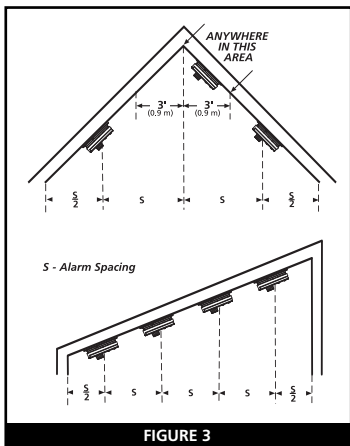

FIGURE 3
• The most favorable mounting location for a heat alarm is on the ceiling in the center of the room. At this location the alarm is closest to all areas of the room (see figure 3).
• If the alarm cannot be located in the center of the room, an off-center location can be used on the ceiling. When off center mounting an alarm on the ceiling, locate it at a minimum of 4" (10 cm) from the side wall (see figure 3).
of alarms shall be spaced and located within 3 ft (0.9m) of the peak of the ceiling measured horizontally" (see figure 3).